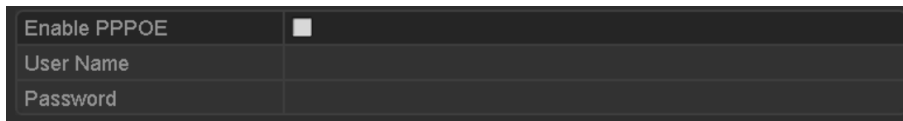

Figure 11-10 PPPoE Settings Interface
Step 2 Select the **PPPoE** tab to enter the PPPoE Settings interface, as shown in Figure 11-10.